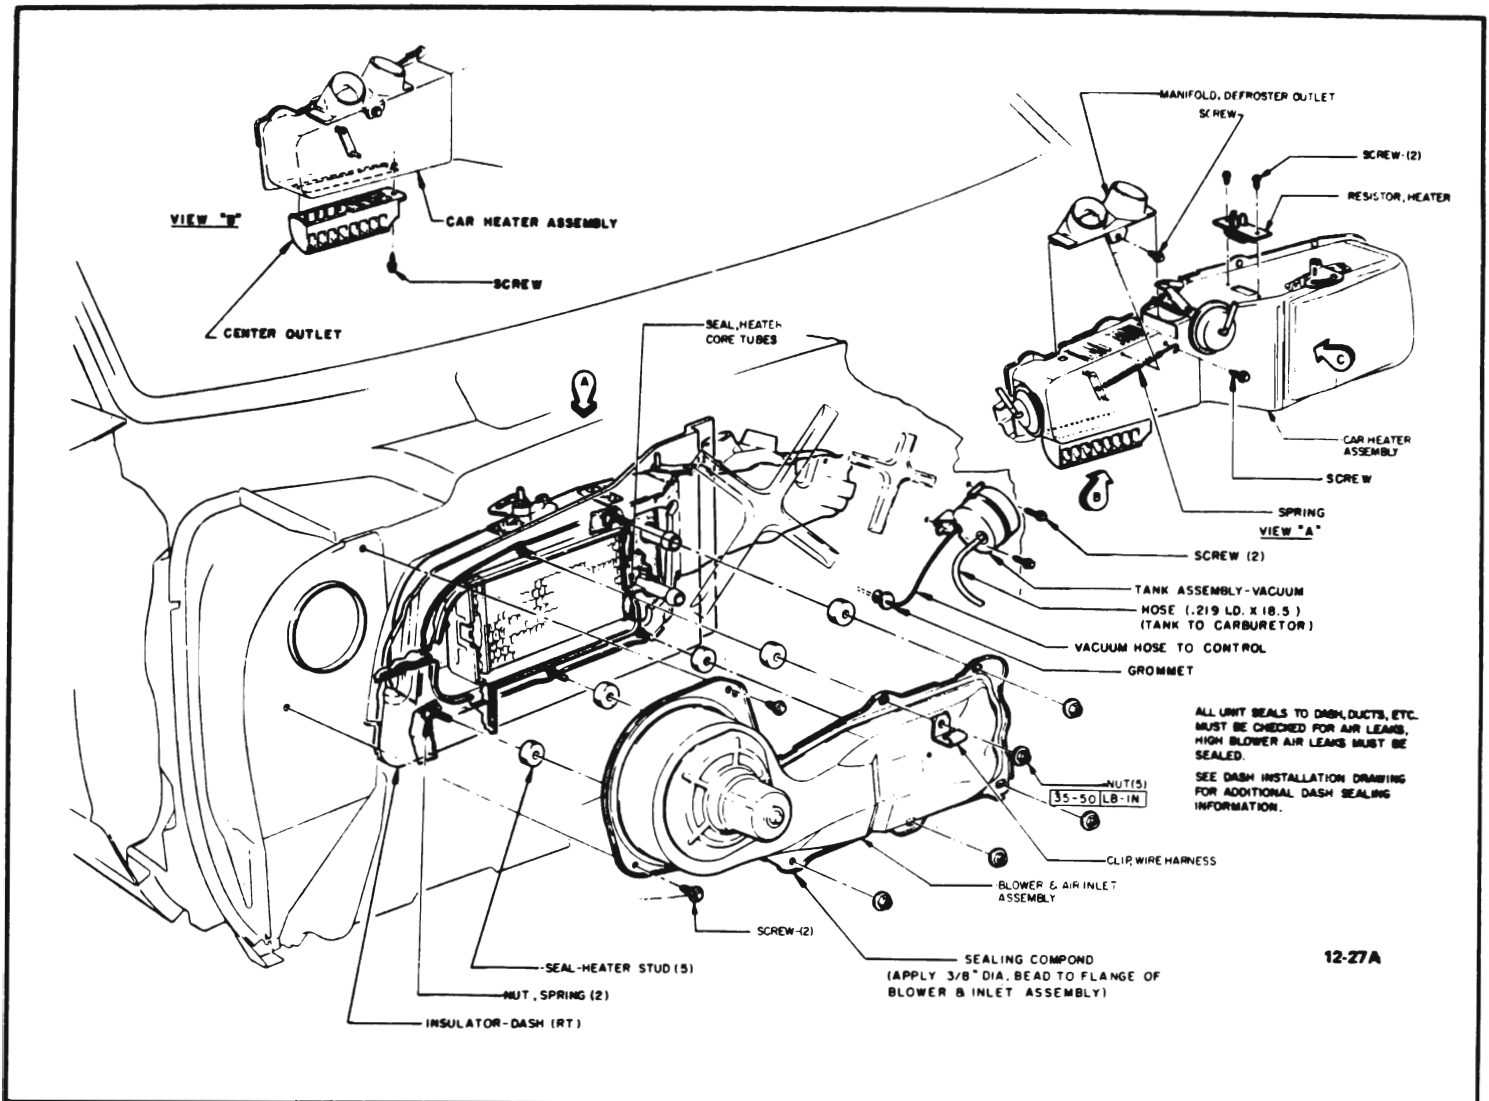

Figure 12-11 Heater Installation
The heater system is an air mix type system in which outside air is heated and then mixed in varying amounts with cooler outside air to attain the desired air temperature. The system consists basically of three parts: (1) the blower and air inlet assembly, (2) the heater assembly and (3) the heater control assembly (see Figure 12-11). The operation of the system is
(Blower Motor and Air Inlet Assembly) Disconnect blower motor wire. Remove five nuts and two screws securing blower and air inlet assembly to dash. See Figure 12-11.
4. Remove five nuts securing heater assembly to dash. See Figure 12-11.